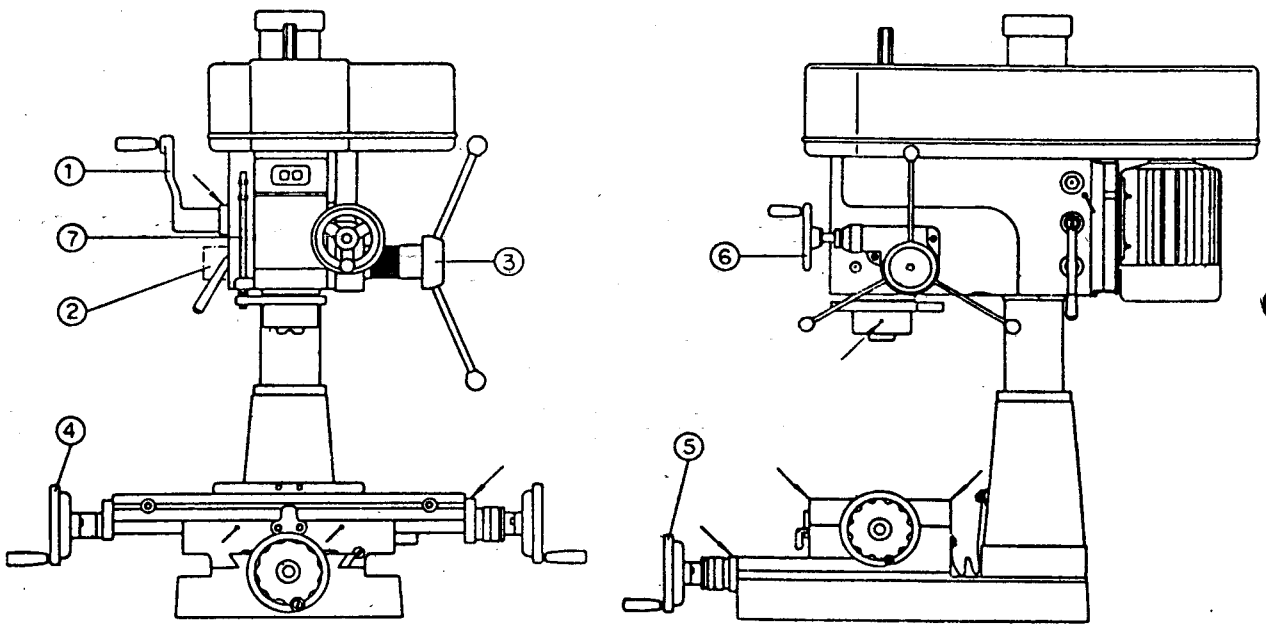

Fig. 1
- (1) Your machine has been coated with a heavy grease to protect it in shipping. This coating should be completely removed before operating the machine. Commercial degreaser, kerosene or similar solvent may be used to remove the grease from the machine, but avoid getting solvent on belts or other rubber parts.
- (2) After cleaning, coat all bright work with a light lubricant. Lubricate all points in Fig. 1 with a medium consistency machine oil.
- (3) Lubricating points as shown in arrows.
5. USE OF MAIN MACHINE PARTS (See Fig. 1)